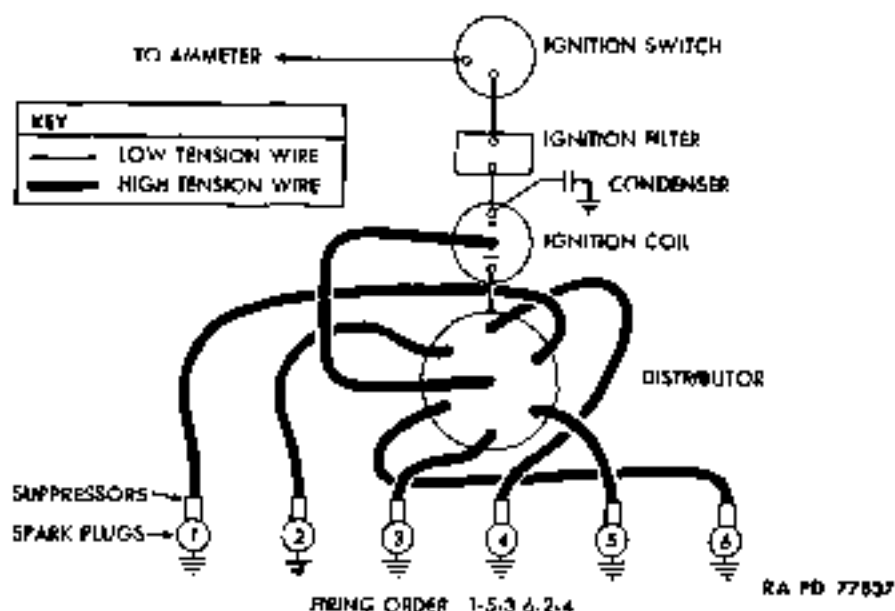

Figure 43 - Ignition System Wiring Diagram
79. DESCRIPTION (fig. 43).
a. **Description (fig. 43).** High tension wires are used to conduct high-voltage current from ignition coil to distributor and from dis-
(1) **REMOVE SPARK PLUG WIRE** (fig. 43). Loosen both wing screws, and lift floor board insert from floor board. Loosen both spring catches on open right-hand side of engine hood. Pull wire from distributor and spark plug, then pull wire from nipples which hold it in position between distributor and spark plug.
(1) **INSTALL SPARK PLUG WIRE** (fig. 43). Thread wire through nipples which hold wire in position between distributor and spark plug. Push ends of wire onto spark plug and into tower of distributor cap, respectively. Close engine hood and engage both spring catches. Install floor board insert, and tighten both wing screws.